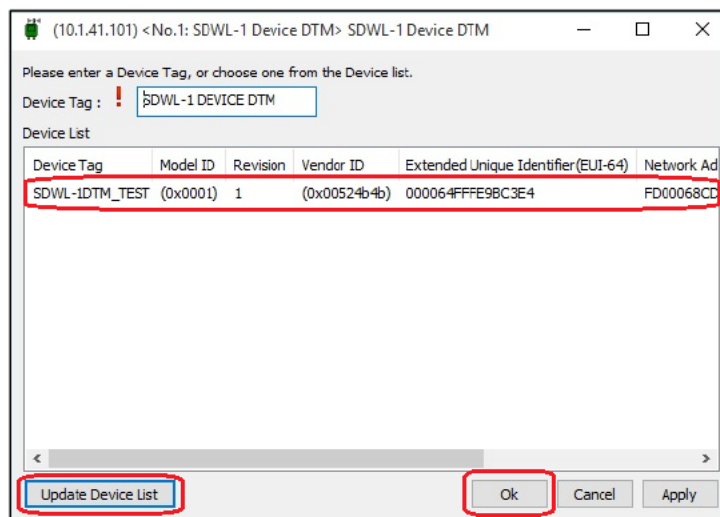

Figure 5-32 Editing device tag (with SDWL-1 DEVICE DTM selected)
- ⑪ Select the SDWL-1 to be connected from the device list, then click “OK”. (Figure 5-32)